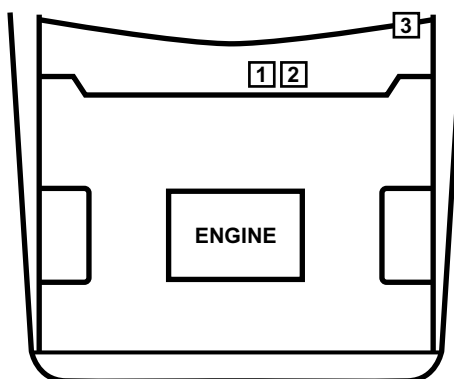

Figure 15-8 1995 Legacy, 1995 Impreza 2.2L and 1996-06 Subaru common connector locations
- “1995 Legacy, 1995 Impreza 2.2L and 1996-06 Subaru common connector locations” on page 180 (Table 15-8, Figure 15-8)